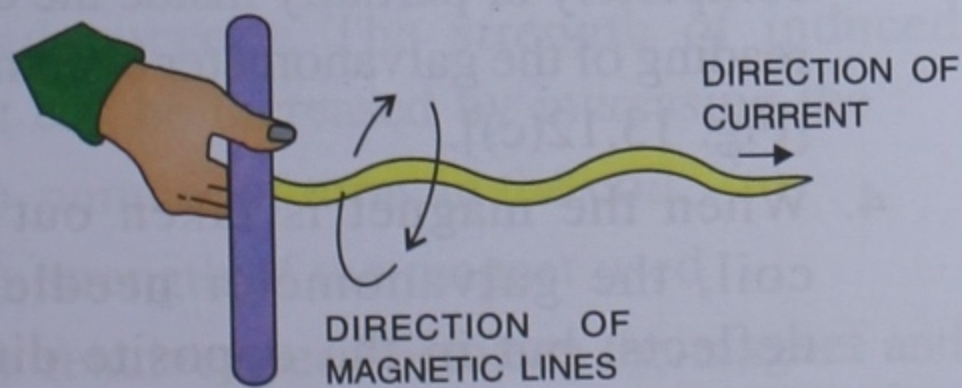

Fig. 13.9 Right hand cork screw rule
- (2) **Right hand cork screw rule** : Hold a cork screw in your right hand and rotate its handle in such a way that the screw moves in the direction of current flowing in the straight conductor. The direction in which the thumb rotates gives the direction of magnetic lines of forces, as shown in Fig. 13.9. The direction of current in the conductor is towards the right and the magnetic field lines are clockwise, as observed from the side of holding the screw.